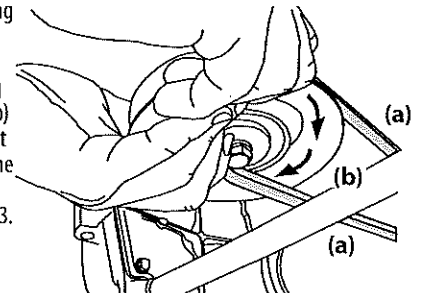

Figure 43
- d. While still holding the PTO belt (a) downward, continue turning the PTO pulley (b) until the PTO belt (a) is rolled off the PTO pulley (b). Refer to Figure 43.
8. Pull the right side of the PTO belt rearward and place the narrow V-side of the PTO belt into the PTO pulley. See Figure 43.
9. While holding the PTO belt and PTO pulley together, rotate the PTO pulley to the left (See Figure 43). Continue holding and rotating the PTO pulley and PTO belt until the PTO belt is fully rolled into the PTO pulley.